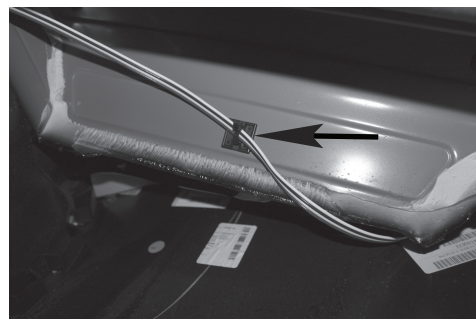

Figure 6
10. Underneath vehicle route 4-Flat wire behind bumper to passenger quarter panel. Mount a cable tie pad on quarter panel and secure 4-Flat wire shown in **Figure 6** using a cable tie.